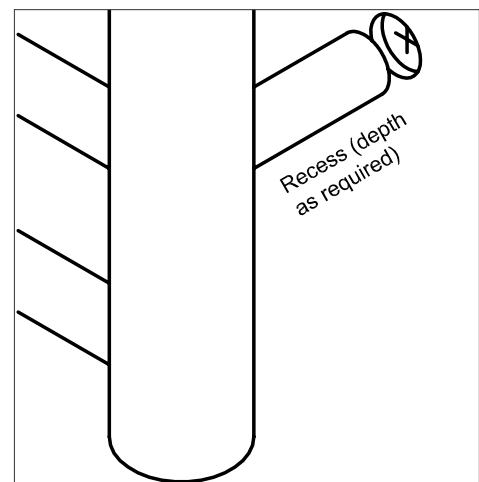

Fig 3.0
- If there is an excessive gap, one of the legs could be recessed to correct the wall alignment. see Fig 3.0